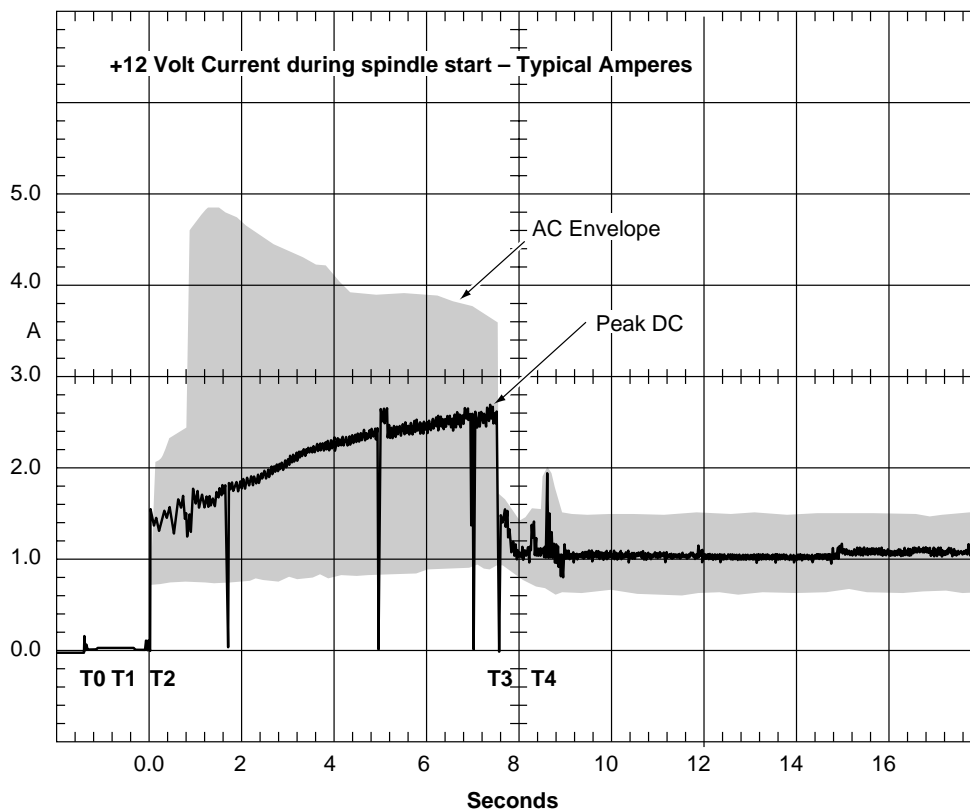

Figure 3. Typical Cheetah 73 family drive +12 V current profile
- [3] See +12 V current profile in Figure 3.
Figure 3 identifies the drive +12 V current profile. The current during the various times is as shown: